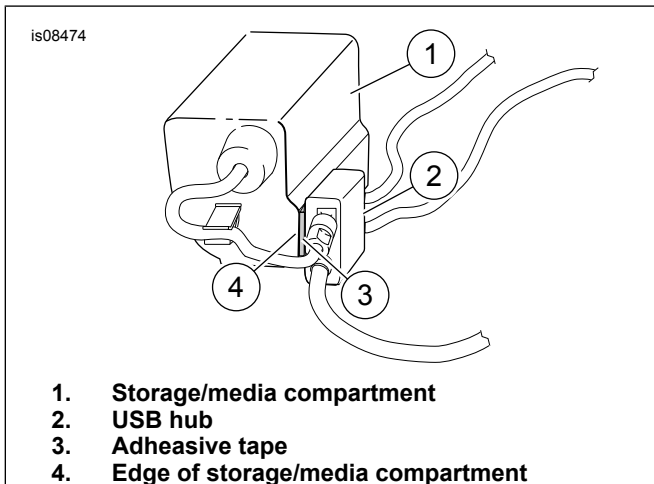

Figure 3. USB Hub Installation
5. Position USB hub (2, Figure 3) so it is on the edge of the storage/media compartment (4). As shown. Clean mounting surface with 50-70% isopropyl alcohol and 30-50% distilled water. Allow to dry completely. Remove paper backing from adhesive tape (3). Press and hold firmly to secure USB hub.